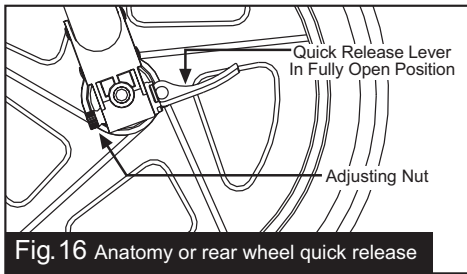
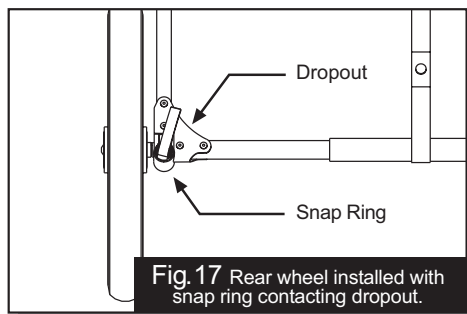
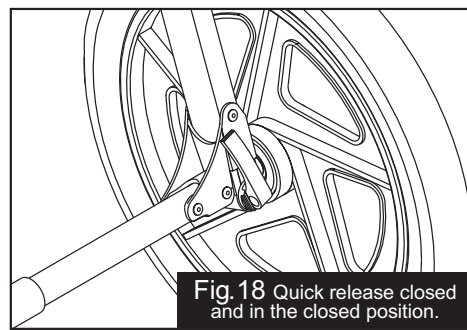
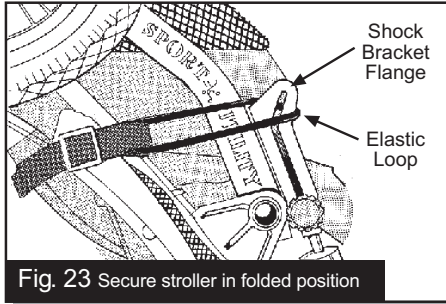

Fig. 16 Anatomy of rear wheel quick release
Fig. 17 Rear wheel installed with snap ring contacting dropout.
Fig. 18 Quick release closed and in the closed position.
Fig. 23 Secure stroller in folded position
**9 REAR WHEEL:** Fig. 16 shows the anatomy of the rear wheel quick release in its open position. Install the wheel by sliding the axle into the hole in the rear dropout (Fig. 16) until the washer on the axle comes in contact with the dropout (Fig. 17). If the axle does not slide all the way into the snap ring, it is necessary to loosen the quick release. Do this by placing the quick release in the fully open position, Fig. 16, and loosening the adjust nut on the quick release. Re-install the wheel. The quick release is NOT a nut and bolt system. It is a cam-activated tightening mechanism. Securely tighten the quick release as follows:
- ▶ Move the quick release lever fully open position, Fig. 16.
- ▶ Move the quick release lever toward the stroller, to the closed position, Fig. 18. The word CLOSE should be clearly visible and the quick release lever should be
pointing up and parallel to the swing arm. When it is properly adjusted, it will require considerable pressure to close the lever. If you do not feel this resistance, turn the quick release lever back to the fully open position, Fig. 16. Tighten the adjusting nut by hand (no tools required!) one or two more turns in the clockwise direction. Move the quick release lever toward the closed position, Fig. 18. When properly adjusted, it requires 80-105 inch/pounds of pressure to move the lever to the fully closed position. NOTE: Follow all instructions exactly. If you are unsure how to operate the quick release, consult your dealer.
quick release and removing the wheel. See section # 6 above. The rear wheels are removed by opening the rear wheel quick releases, Fig. 16, and removing the wheels. To keep the stroller in the folded position for storage and transport there are elastic loops at the end of each reclining strap. Simply place the elastic loops around the shock bracket flanges. See Fig. 23. Note: The elastic loop tie down strength is highest when the seat recline strap is in the fully reclined position.